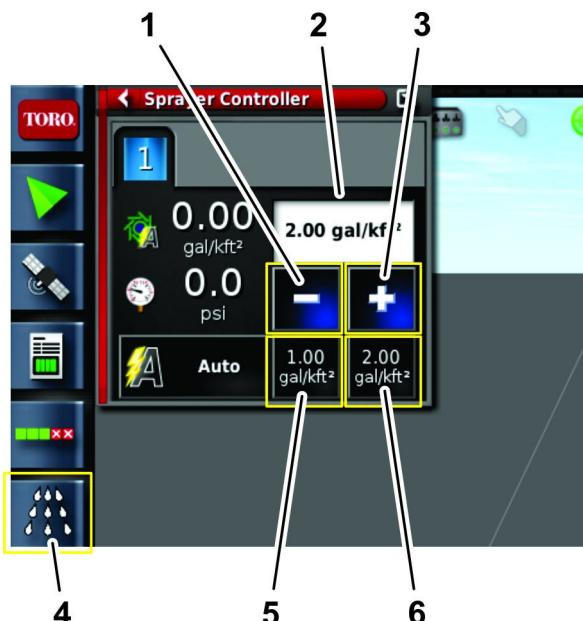

Figure 180
10. Enter the desired application rate by using the pre-sets, increase or decrease icons, or by selecting the current-target application rate icon (Figure 180).